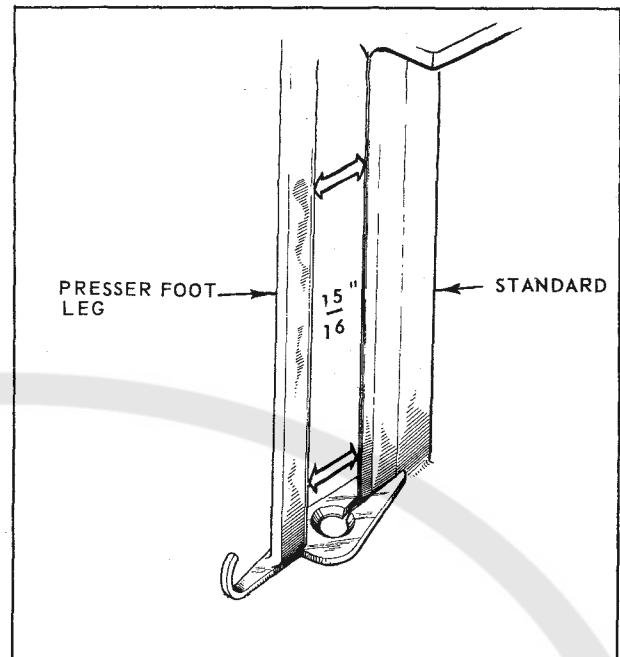

Figure 7.
To obtain a proper and uniform bevel on the machine, it is necessary that the presser foot leg (29) be at the proper distance from the standard. With the presser foot leg all the way down, the distance from the back of the leg to the standard should be equal at both the top of the standard and at the bottom of the standard. For the Model E machine, this distance should be approximately $15\frac{1}{16}$ " , See Figure 7.